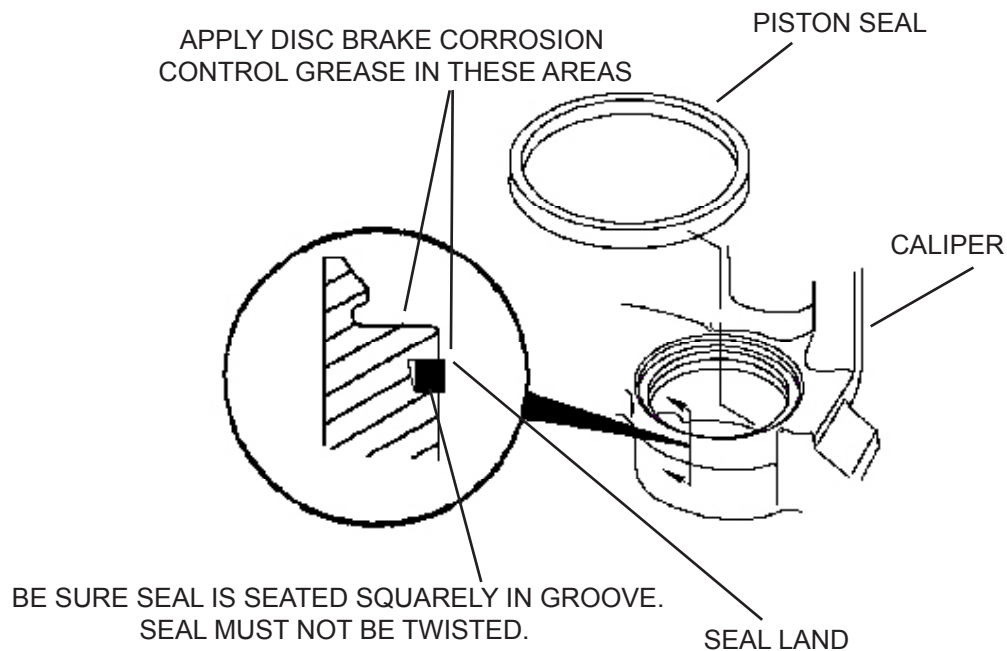

Figure 21. Piston Seal Installation
4. Inspect caliper bores and seal lands (*reference Figure 21*) to make sure they are clean and free of debris. Repeat the cleaning process as necessary.
1. Dip **NEW** piston seals in clean DOT 3 or DOT 4 hydraulic brake fluid and install in the piston seal groove of caliper piston bores, as shown in *Figure 21*.
3. Using a small acid brush, apply a film of Disc Brake Corrosion Control Grease from the packet contained in the service kit to the caliper bore seal land area between the piston boot and seal grooves shown in *Figure 21*. Use half of the grease packet for each piston bore. Apply the grease to the areas shown in *Figure 21* around the entire circumference of the caliper seal land area.